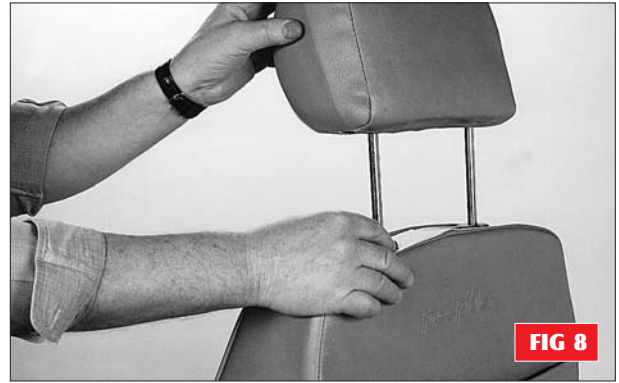

FIG 8
7. **Backrest Height Adjustment:** The upper cushion of your backrest (See Fig 8) can be adjustment for height, giving you more back support if you are tall, by operating the small latch at the base of the left hand round support bar. Lift the cushion up or push down for the most comfortable position. The headrest will also lift out for convenience.